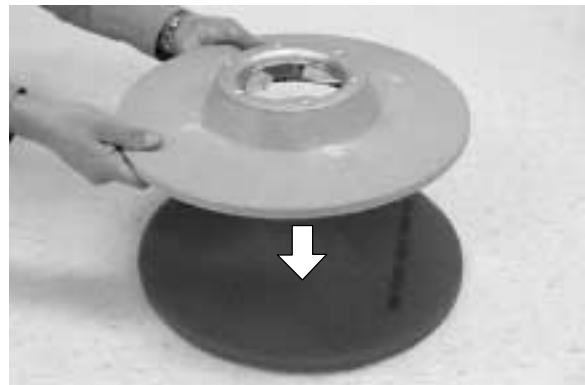

FIG. 6
2. For pad installation, center pad driver on pad and tap with hand to secure (Figure 6).